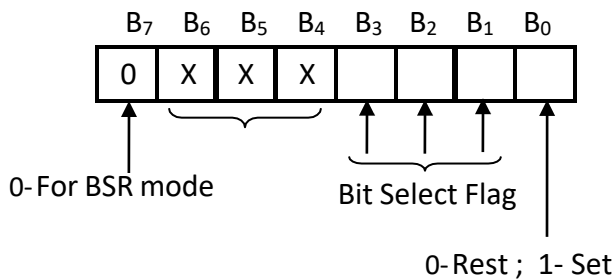

Fig.3.3 : BSR mode control word register format
**BSR Mode:** In this mode, any of the 8-bits of port C can be set or reset depending on  $B_0$  of the control word register (CWR). The bit to be set or reset is selected by bit select flags  $B_3$ ,  $B_2$ , and  $B_1$  of the CWR as given in Table. The control word format is shown in Fig.3.3.